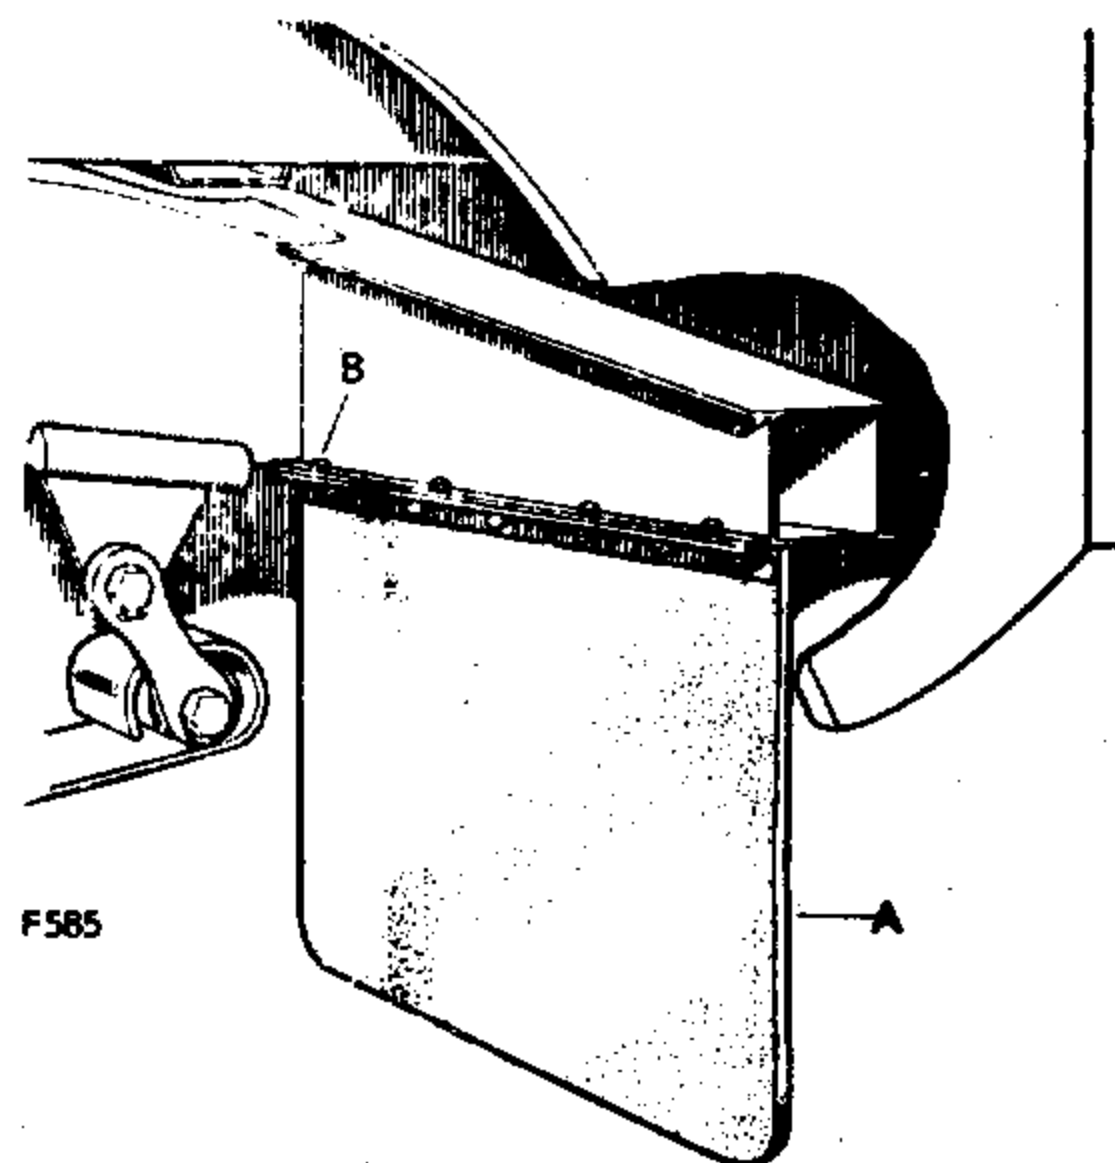

Fig. 2. Rear mudflap in position. Except 109 Station Wagon
1. Position the right- and left-hand mudflap assemblies, by the retaining angle strip, to the underside forward lip of chassis frame rear cross-member outrigger, with the mudflap flush to the outer edge as shown in Fig.2.